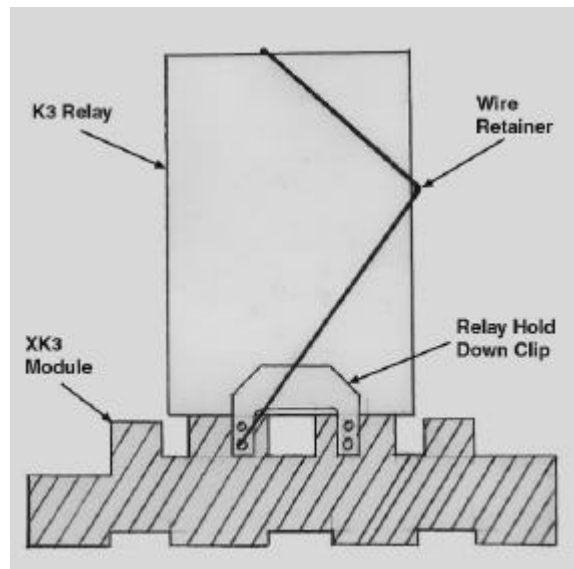

Figure 2 High Power Relay Side View
10. Into each side of the XK3 socket, push in the relay hold-down clips. Refer to figure 2.
12. Refer to figure 2 and install the wire retainer, over the K3 relay, by attaching it to the relay hold-down clips. This wire will secure the K3 relay to the XK3 socket.